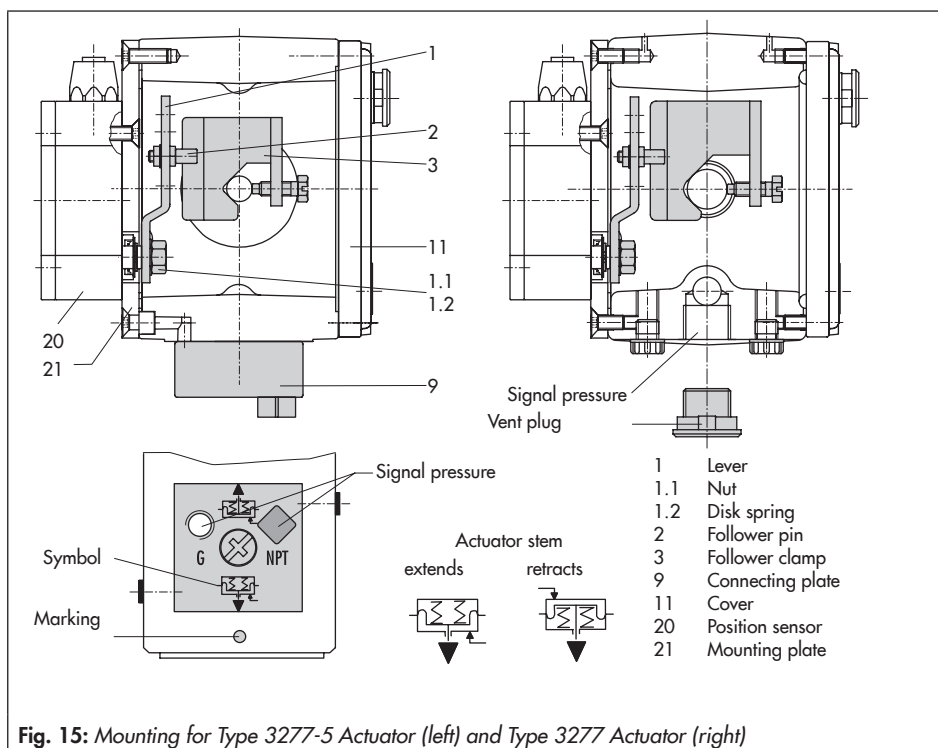

Fig. 15: Mounting for Type 3277-5 Actuator (left) and Type 3277 Actuator (right)
Type 3277-5 Actuator with 120 cm² (Fig. 15)
The signal pressure from the positioner is routed over the signal pressure connection of the connecting plate (9, Fig. 15 left) to the actuator diaphragm chamber. To proceed, first screw the connecting plate (9) included in the accessories onto the actuator yoke.
- Turn the connecting plate (9) so that the correct symbol for the fail-safe action "actuator stem extends" or "actuator stem retracts" is aligned with the marking (Fig. 15, below).
- Make absolutely sure that the gasket for the connecting plate (9) is correctly inserted.